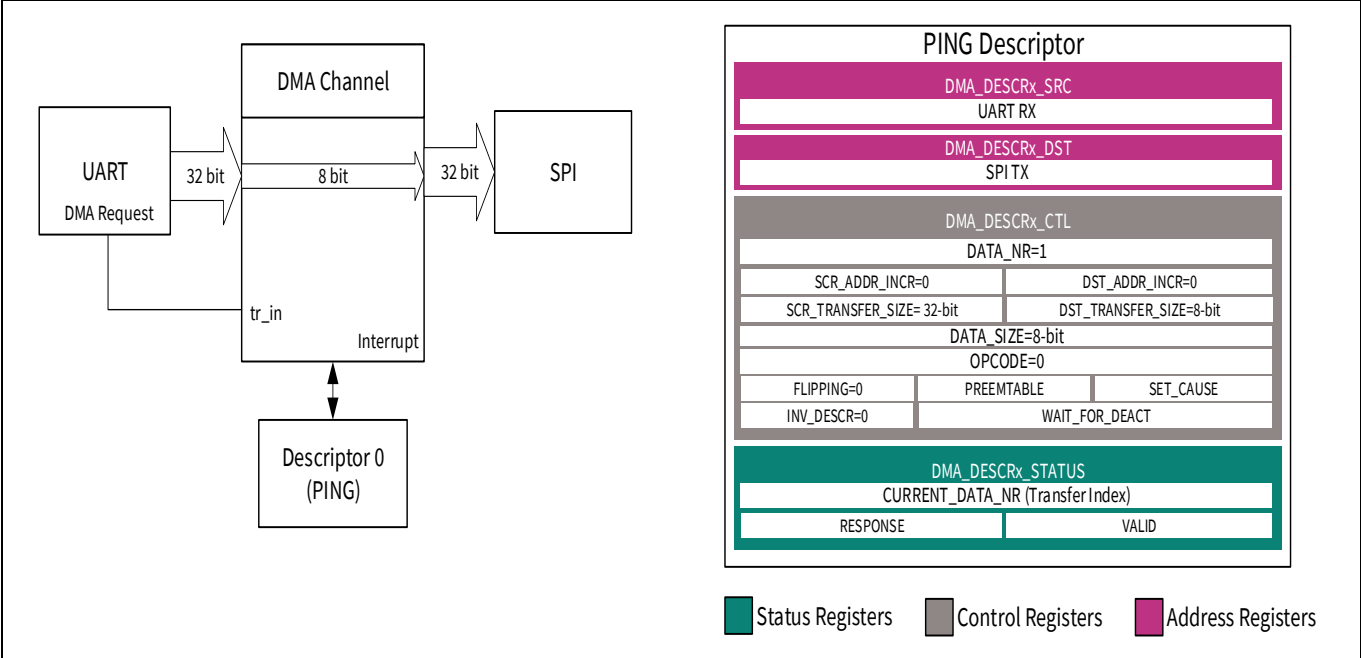

Figure 5-5. OPCODE 0: Simple DMA transfer from peripheral to peripheral
Figure 5-5 shows a typical use case of this transfer. Here a UART receive (RX) register is the source and the destination is a peripheral register such as an SPI transmit (TX) register. The trigger is from the DMA request signal of the UART. When the trigger is received, the transfer engine will load data from the UART RX register and store the lower eight bits to the SPI TX register. Successive triggers will result in the same behavior because the descriptor will be rerun.